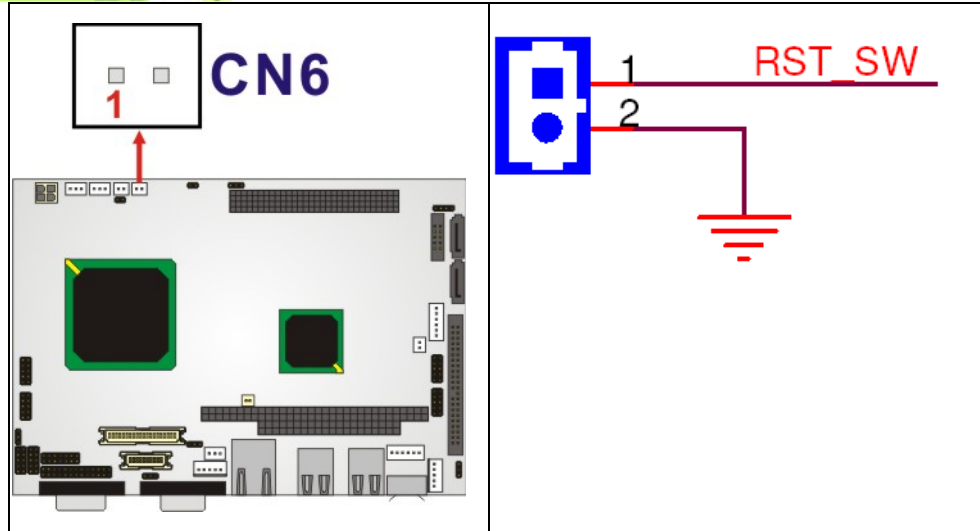

Figure 4-22: CN6 Connector Location
- CN Location:** See Figure 4-22